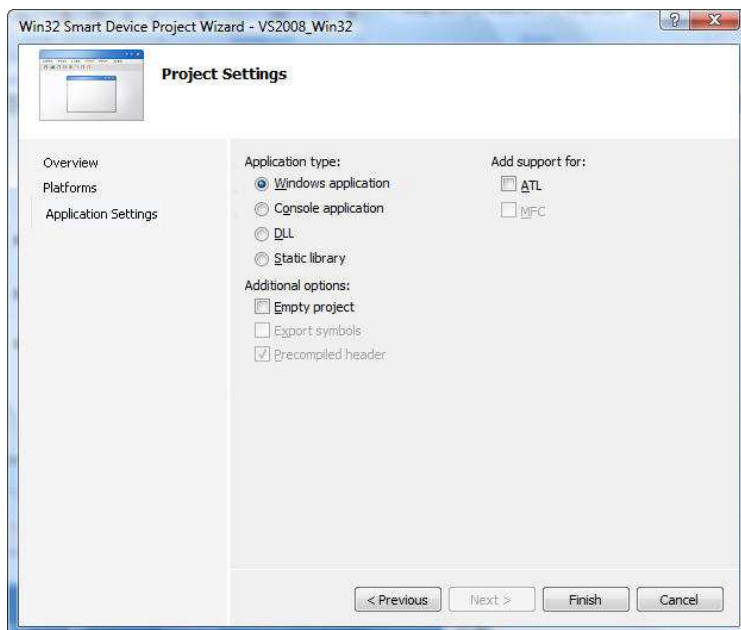

Fig. N05 - Project settings
- Click on the **Next** button to bring up the Project Settings step, as shown in Figure N05.